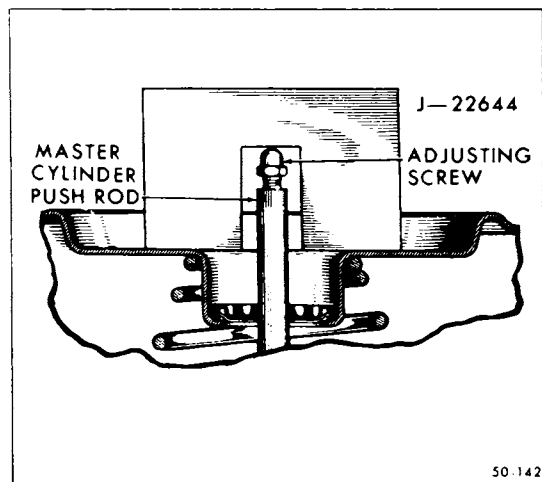

Figure 50-74—Gaging Master Cylinder Push Rod
2. Place Gage J-22644 over piston rod so that it fits between studs on front shell. It should be parallel to studs and resting on surface of shell. The cutout portion of gage should never be lower than end of piston rod and gap between cutout in gage and end of piston rod should never be more than .010 inch. See Figure 50-74.